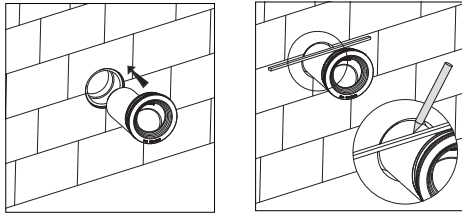

Figure 1
- ☐ Insert the connecting pipe into the drain elbow until it clicks into place, marking the connection pipe. (Figure 1)